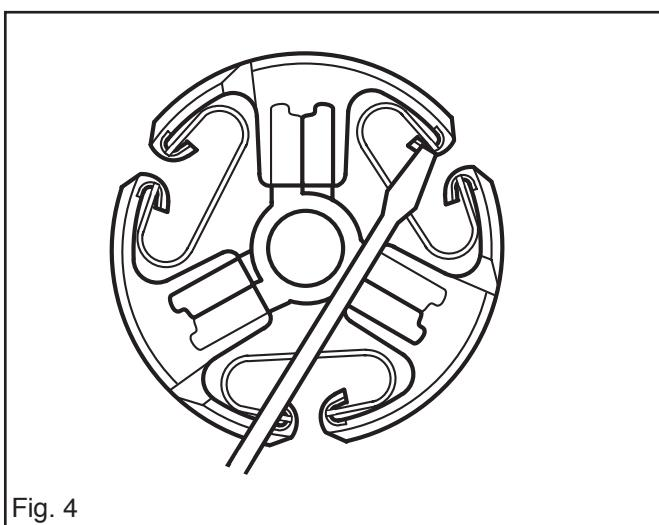

Fig. 4
5. Using a screwdriver, lever in the lip of the spring such that the spring sticks out a little on the other side. See fig. 4.
1. Locate the clutch shoes on the hub and fit the springs with the help of circlip pliers. See fig. 4.